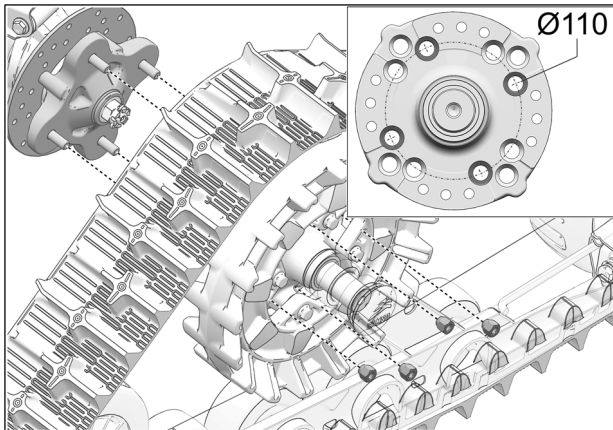

Fig. 18
7. Secure undercarriage to front hub re-using the vehicle's lug nuts. Use bolt circle  $\text{\O}110$  mm. See Fig. 18